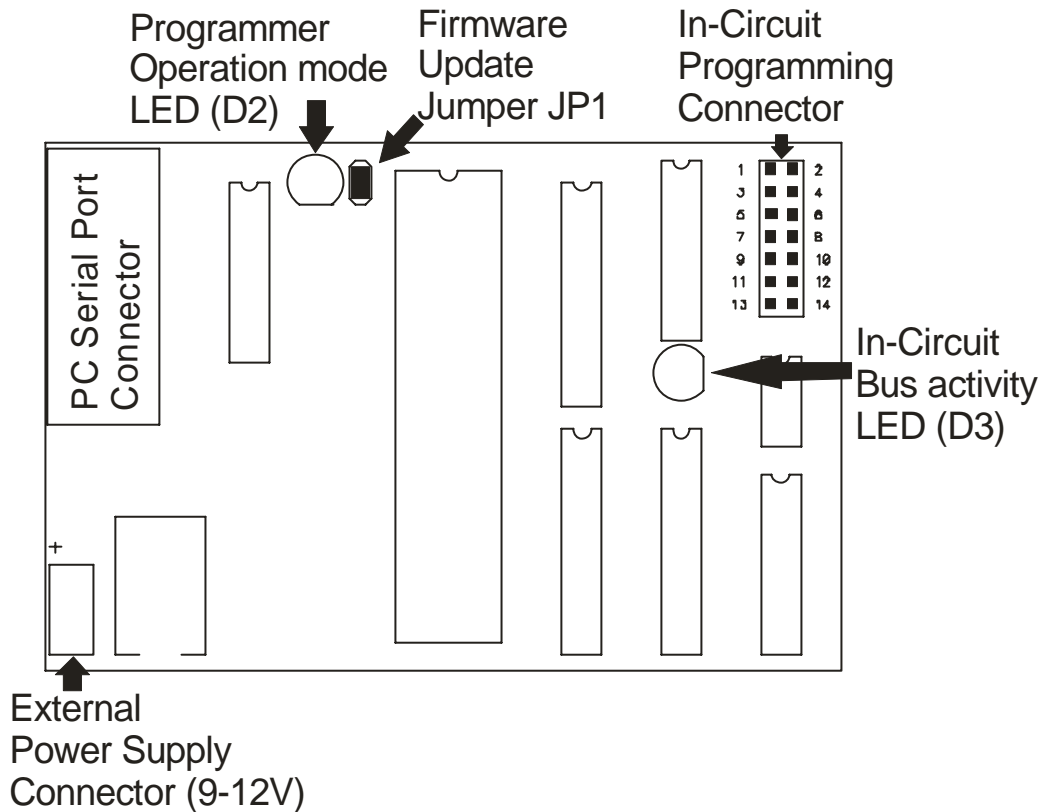

Figure 1. The uPD78-Programmer board layout
The uPD78-Programmer includes two LED's and mode jumper (Figure 1). Color LED's indicates programmer state and external power supply voltage (Table 1, 2).
- Insert jumper JP1 (see Figure 1).
- Remove JP1 (see Figure 1).